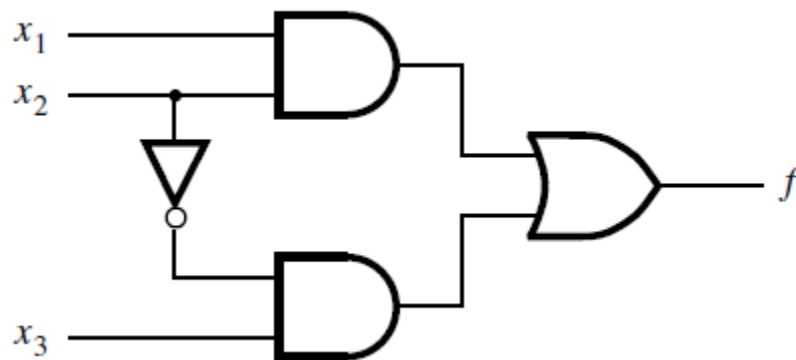

Fig.5.2: A Simple Logic Function
- The circuit in Fig.5.2 can be defined with the expression $f = x_1x_2 + ((\sim x_2)x_3)$. The AND, OR operations and NOT are indicated by the "&", "|", and "~" signs, respectively, and can be expressed in verilog as below.
- Consider again the circuit in Fig 5.2. This circuit is similar to the 2-to-1 multiplexer circuit discussed in section with x2 being the selection control input and x1 and x3 being the data inputs.